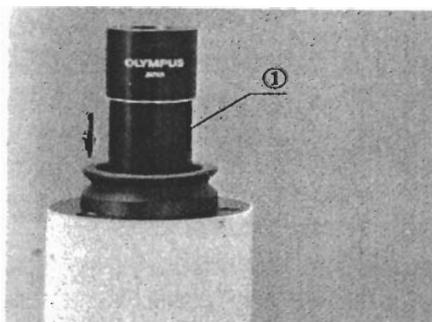

Fig. 20
Insert the eyepiece ① into the eyepiece tube of the photo tube. (Fig. 20)